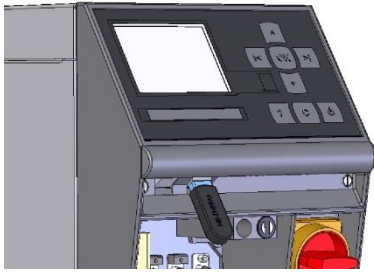

Fig. 86: Connect USB data carrier
2. Connect USB data carrier (Fig. 86).